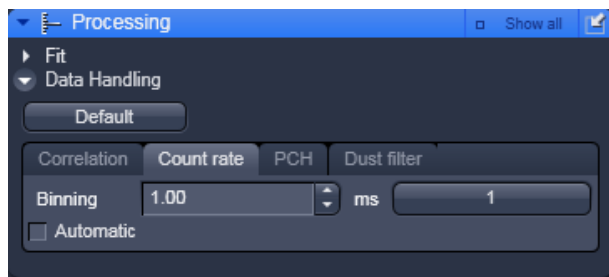

Fig. 9-51 Count rate panel
- Click on the **Count rate** register to open the **Count rate** panel (Fig. 9-51). Click any other register to leave the panel.